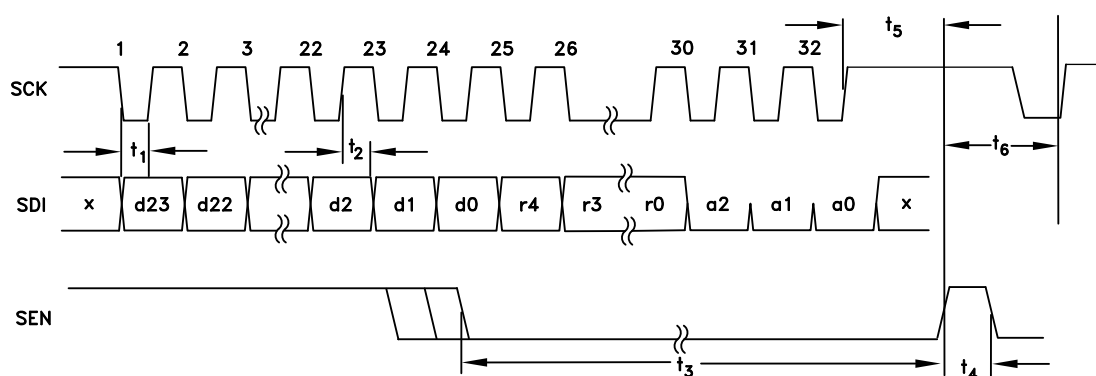

Figure 46. Serial Port Timing Diagram - WRITE
A typical READ cycle is shown in Fig 46.
- a. The Master (host), on the first 24 falling edges of SCLK places 24-bit data, d23:d0, MSB first, on SDI as shown in Fig 46. d23:d5 should be set to zero. d4:d0 = address of the register to be READ on the next cycle.